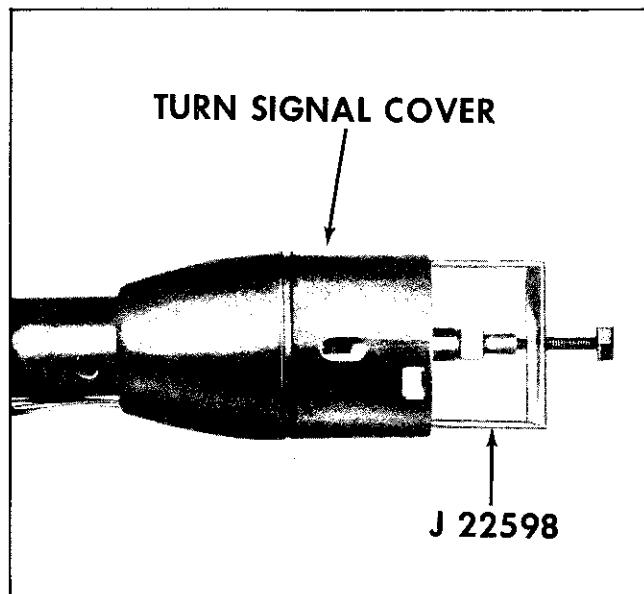

Fig. 9-9 Removing Turn Signal Switch Cover
4. Push in hazard flasher knob, remove knob and remove turn signal cover using tool J 22598 (Fig. 9-9).